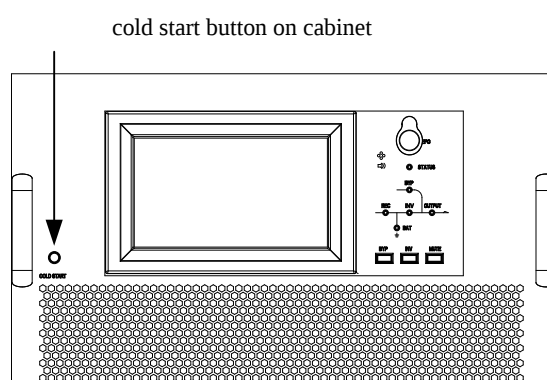

Figure 5-1 The position of the battery cold start button on cabinet
3. Press the red button for the battery cold start. The system is then powered by the battery. See Figure 5-1: